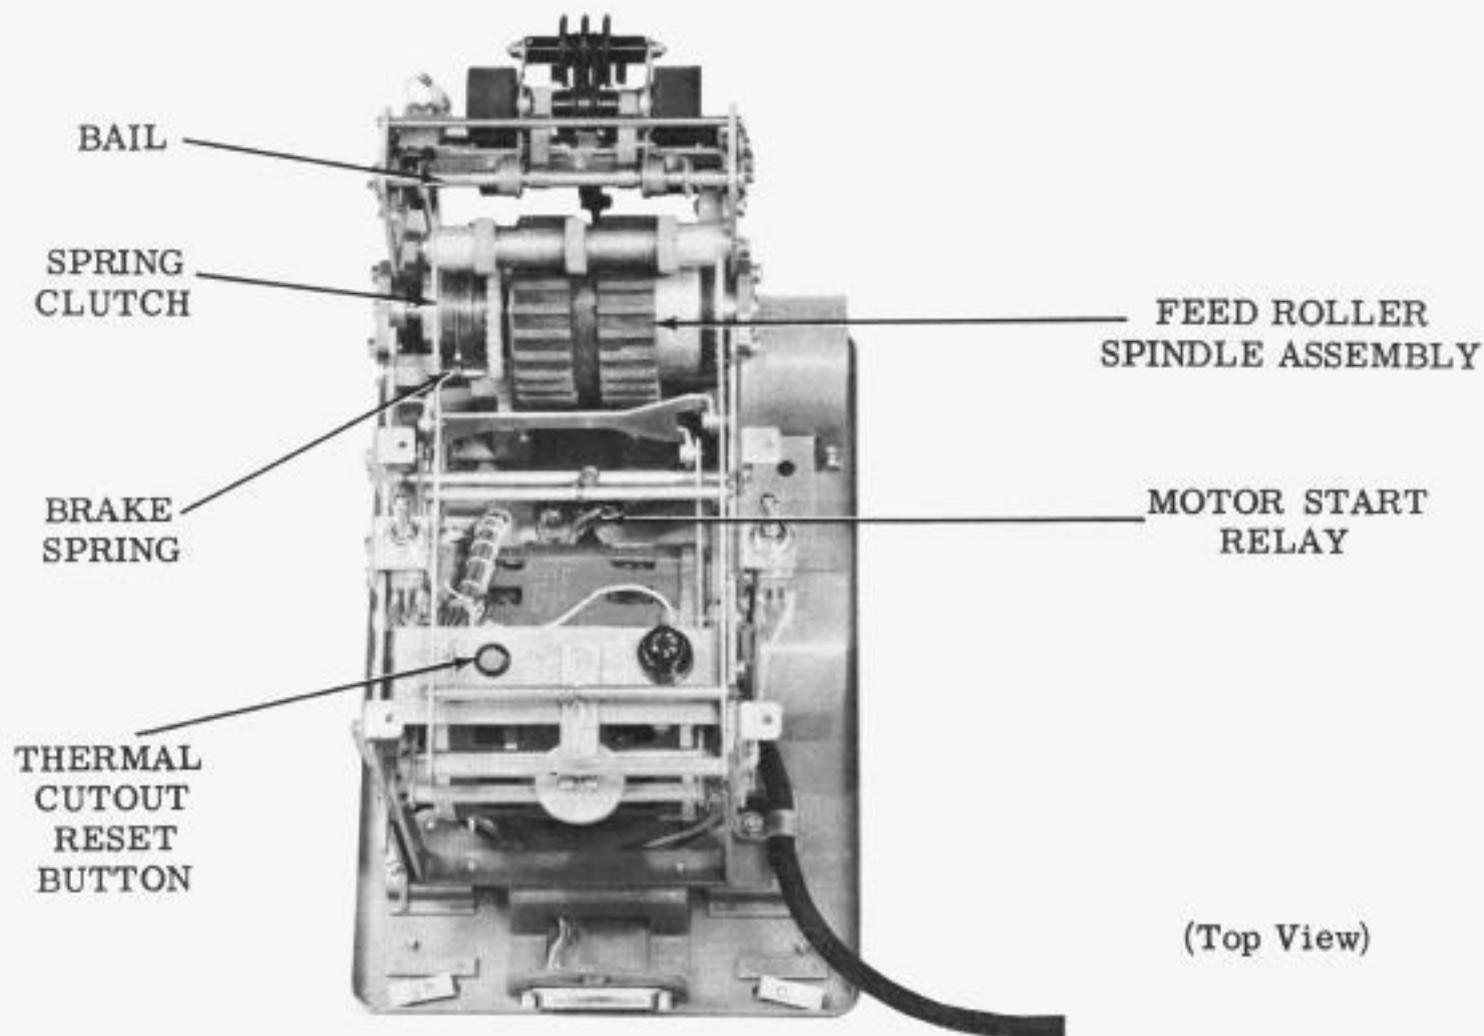
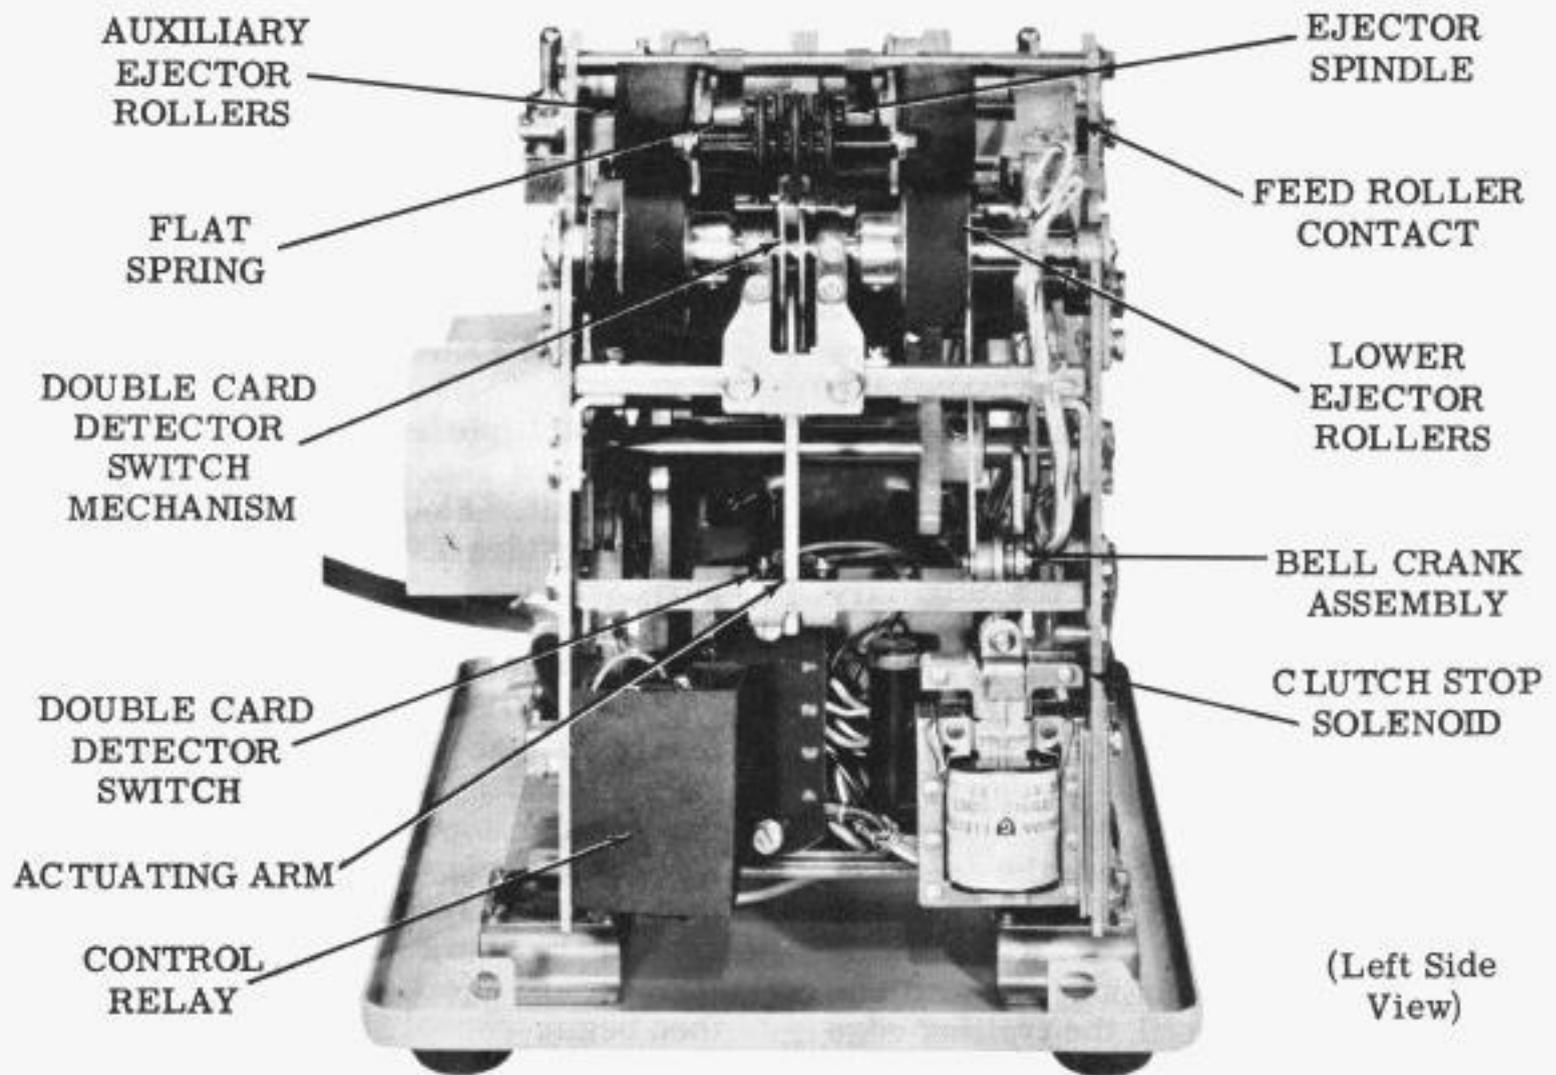

Figure 5 - 35 Edge Punched Card Feeder (Without Cover and Top Plate)
Figure 6 - 35 Edge Punched Card Feed (Without Cover and Top Plate)
2.04 The feeder motor is protected with a thermal cutout device (Figure 5) which can be reset. The thermal cutout is located directly above the motor assembly and is accessible when the top plate is removed.
3.09 The feed roller spindle assembly may be considered the heart of the feeder. A spring clutch (Figure 5) is located at the end of the spindle and imparts motion to the feed roller. Surrounding the clutch spring is a sleeve which acts as a confiner for the spring, and as the braking surface for stopping the clutch.
3.10 The braking force for stopping the feed is supplied by a solenoid actuated brake spring (Figure 5). Actuating the clutch stop solenoid (Figure 6) causes the brake spring to tighten around the clutch spring confiner. By braking the confiner, the clutch spring is expanded and the drive gear arbor at the front of the clutch rides inside the spring causing the feed to stop.
3.12 The purpose of the ejector spindle (Figure 6) is to effect full insertion of the card into the reader. The ejector spindle is driven by the feed roller through an 80-tooth timing belt. The drive sprockets are arranged so that the ejector spindle rotates at a speed which is slightly faster than the feed roller. This speed difference produces a desirable spacing between the card being inserted and the card being separated from the card stack.
3.13 The auxiliary (upper) ejector rollers slide against the driven lower ejector rollers (Figure 6). Pressure against the auxiliary rollers is provided by a flat spring (Figure 6). An additional roller, mounted on the same arm and connected to the auxiliary rollers by means of drive belts, assures that 7-inch cards are fully inserted into the card reader. A bail (Figure 5) and bell crank (Figure 6) connected to the clutch stop solenoid lifts the auxiliary rollers at the same time the feed roller clutch is being disengaged. Lifting the auxiliary rollers frees
3.16 The internal controls consist of the double card detector switch, the feed roller contact Q, the control relay R and the clutch stop solenoid (Figure 6).
3.33 In the event that the feed rollers mechanism strips more than one card at a time, the detector switch actuating arm (Figure 6) will pivot and operate the double card detector switch A. Switch A provides a normally closed contact in series with the coil of feeder control relay R. When the feeder control relay R disengages, the clutch stop solenoid will disengage the feed roller clutch and feeding will stop. The FEED CARDS - STOP/TAPE switch F should